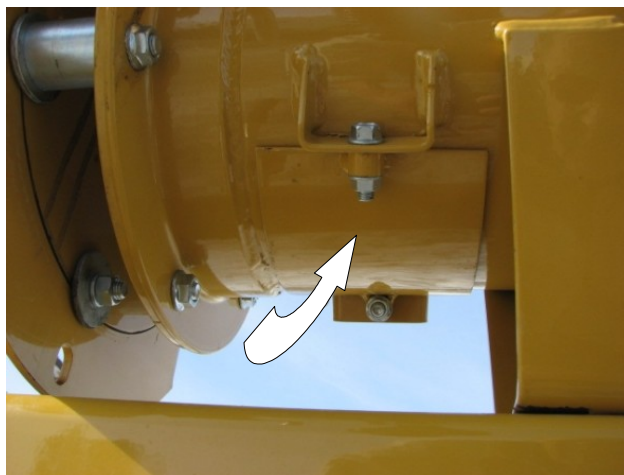

Fig. 25 CLEAN-OUT DOOR
5.2.2 CLEAN-OUT DOOR - Fig. 25